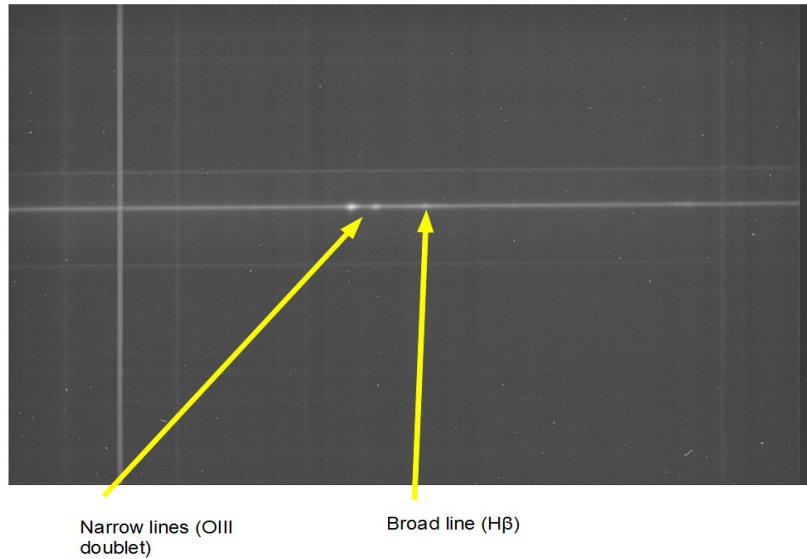

Figure 9: Example of emission lines. This object is raw data for MCG-08-11-011. The ds9 scale parameters used are “log” and “minmax.”
12. As the image is read out, check the data quality. Specifically, make sure that there is a spectrum, and, if it is an AGN, make sure that it has emission lines. An example of the raw data for one AGN is in figure 9. You may need to open the image in ds9 and adjust the scale—it is recommended to use “log” and “minmax.” You can also examine the spectrum with IRAF—use implot, and type “:a 2\0”, then “l 455”, just as with the calibration frames.